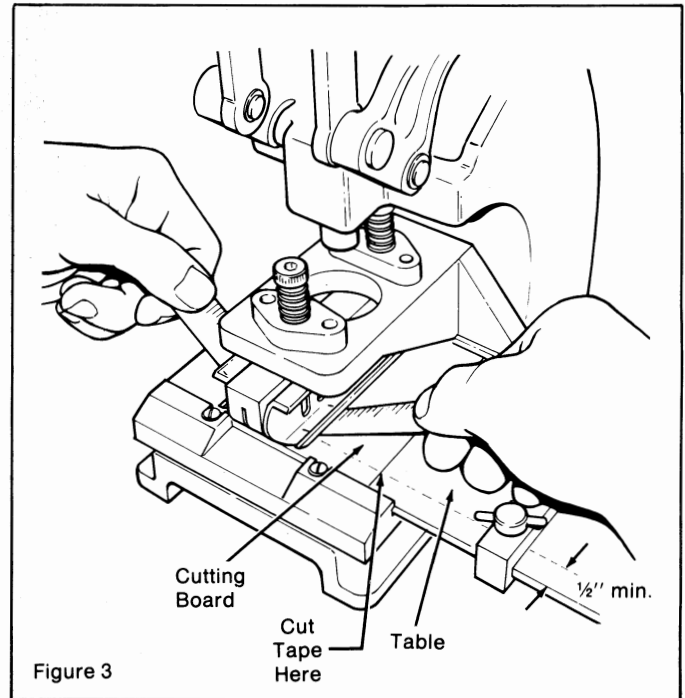

Figure 3
3. Slide the tape under the plastic guards aligning a 12 inch mark (30 cm mark) directly under the blade, at least 1/2 inch (1.27 cm) from either edge of the table (figure 3).